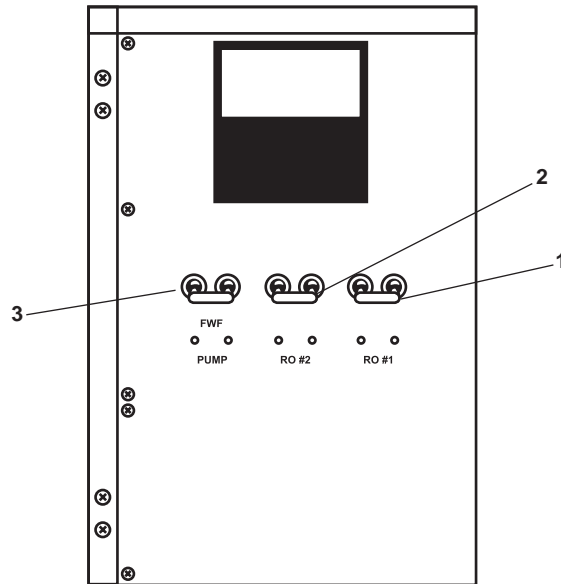

Figure 18. ROWPU 24 Vdc Control Panel
- a. RO #1 (figure 18, item 1)
- b. RO #2 (figure 18, item 2)
- c. FWF PUMP (figure 18, item 3)